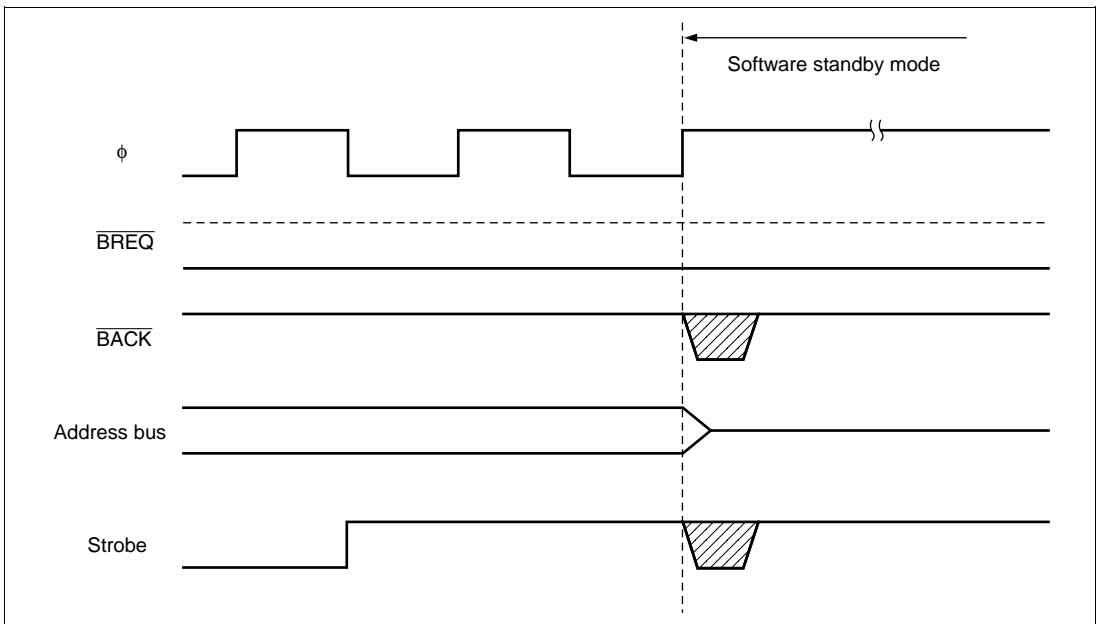

Figure 6.36 Bus-Released State and Software Standby Mode
- In the event of contention with a bus request from an external bus master when a transition is made to software standby mode, the BACK and strobe states may be indeterminate after the transition to software standby mode (see figure 6.36).